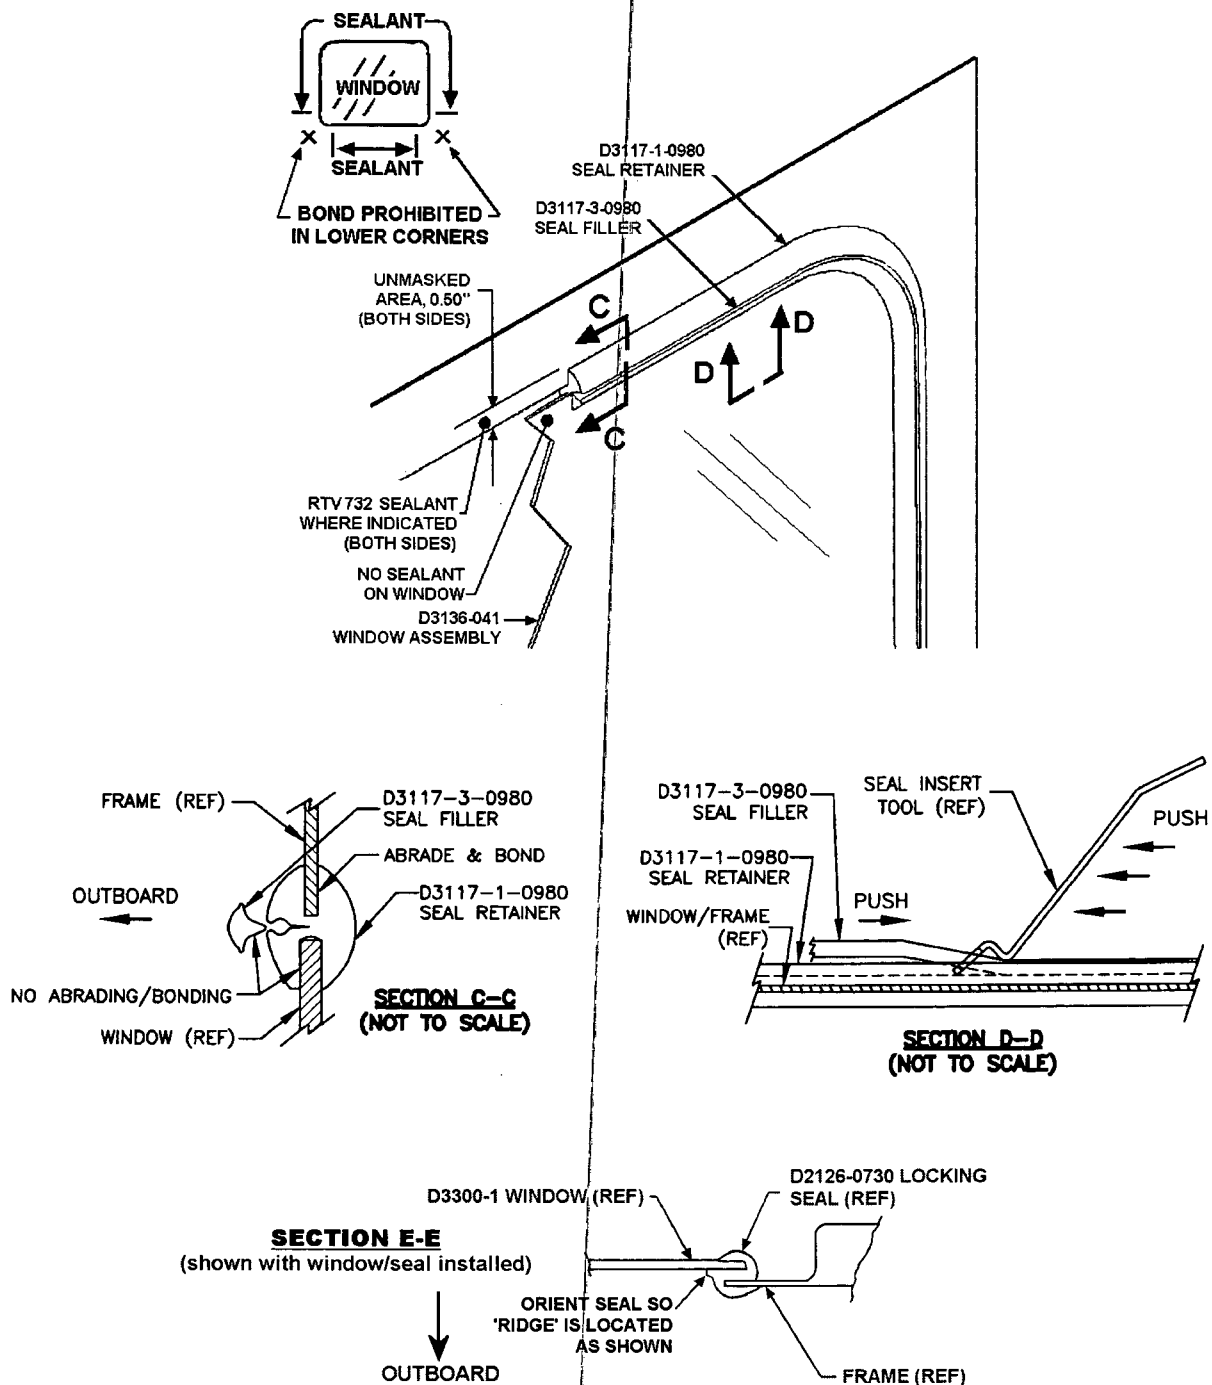

FIGURE 3: window/Seal Installation, (D412-694-01/-02 Door Assembly)
3.4 Window Installation (See Figure 3)
9. Apply 0.010 to 0.015 inches of RTV-732 sealant to areas of the window frame that have been prepared for bonding with Dow 1200 primer. Note: It is prohibited to bond lower corners as shown in Figure 3.